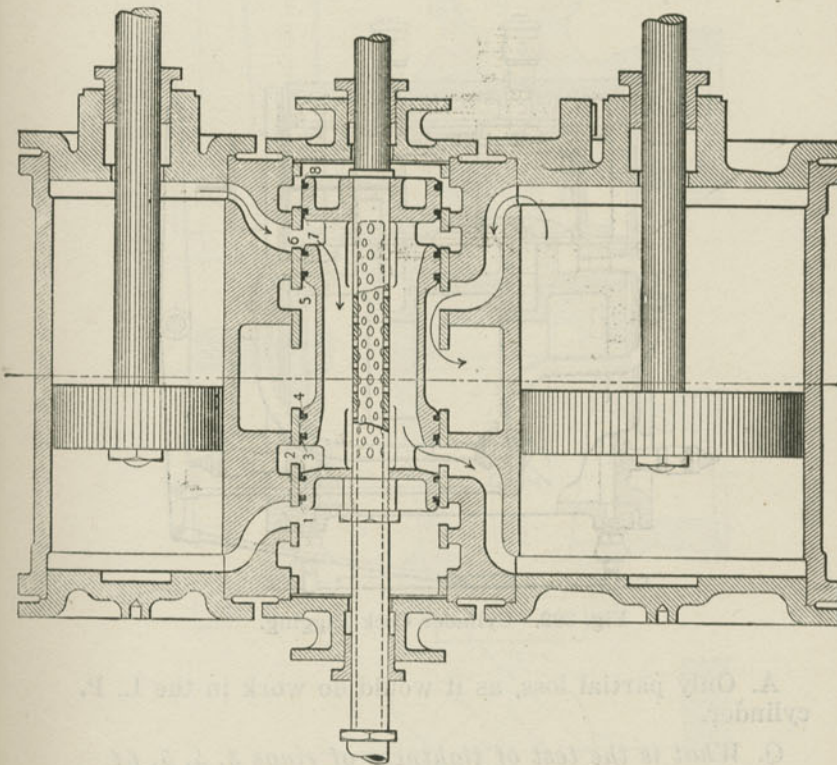

Fig. 391. Showing Valve Packing Rings.
*Q. Referring to Fig. 391: which rings govern steam admission to the H. P. cylinder?*